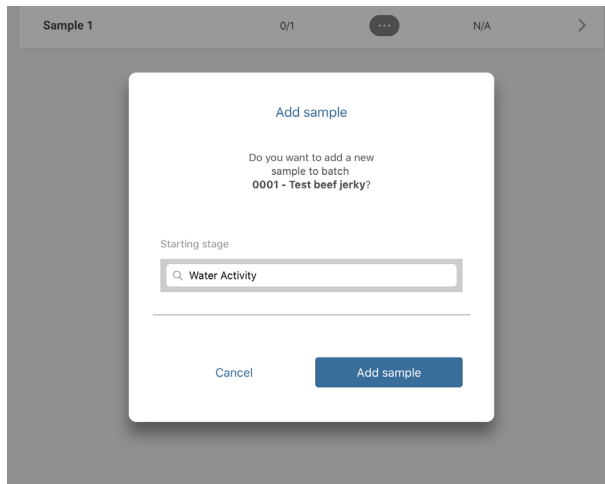

Figure 61 Add sample popup screen
4. Select the plus symbol in the blue circle in the lower left corner of the Batches screen to open the Add sample popup window (Figure 61).
5. Select the **Add sample** button (Figure 61).